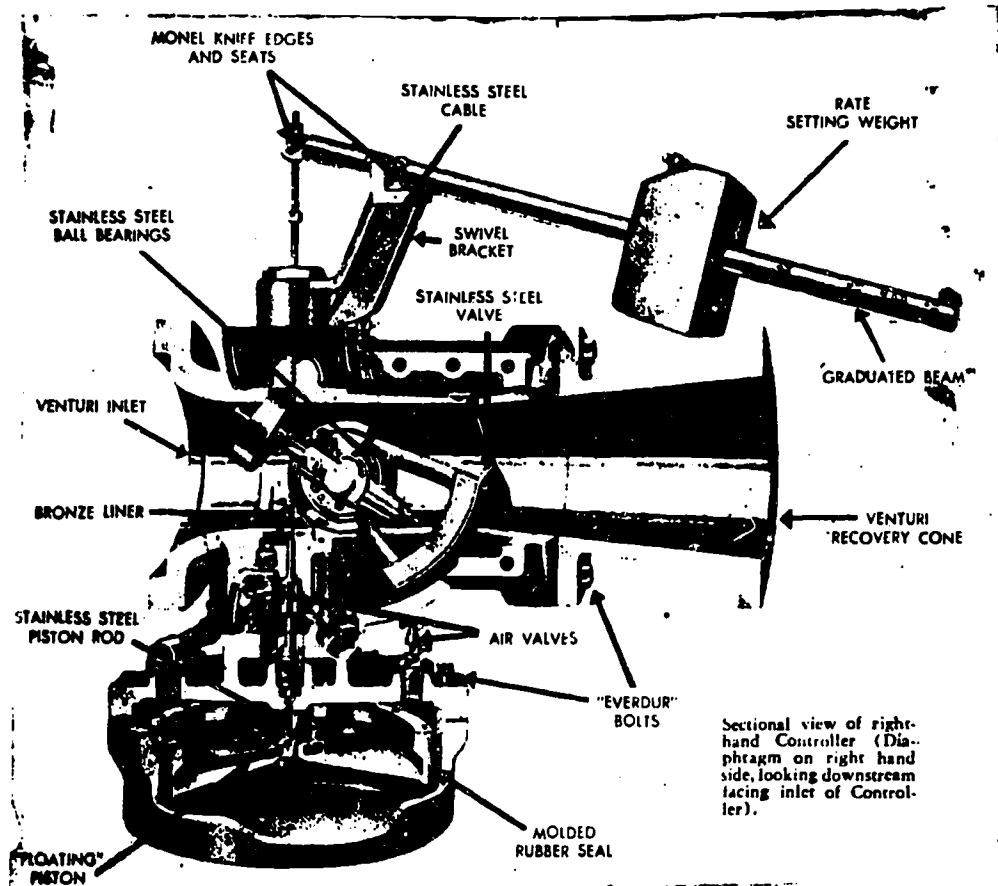

Figure 2-7. Rate-of-Flow Controller
Filter Operation. In reference to the operation of filters refer to Figure 2-7. An outlet pipe transports water from the sedimentation basin to the filter. The water will be discharged against the filter baffle. This prevents the water current from disturbing the filter bed. The incoming water flows up and over the filter. The water filters downward through the sand and gravel into the underdrain system. The outlet flow of the water from the filter is regulated by the rate-of-flow controller. The filtered water is collected at this point in the process in a filtered-water reservoir called a clearwell. The main operating difficulties in water filters are: (1) mud or mud ball accumulation, (2) sand incrustation, (3) air binding, (4) sand clogging, (5) formation of micro-organisms and (6) ice formation.